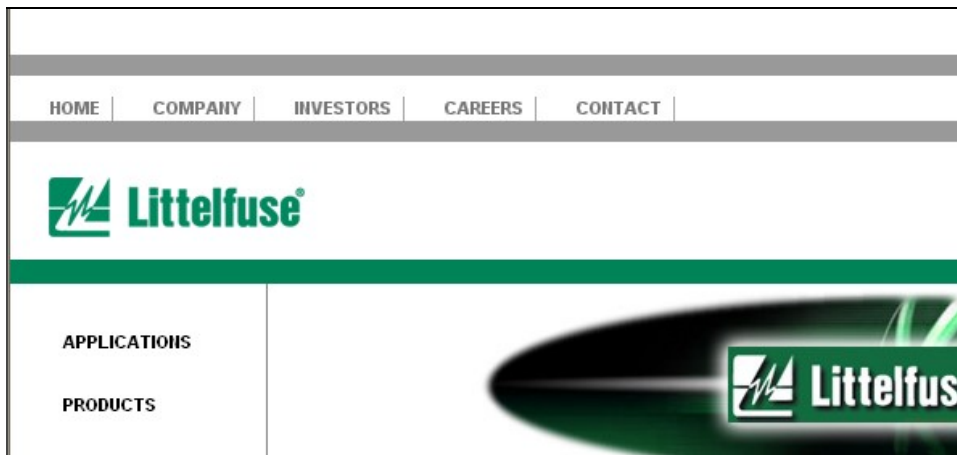

Figure 1 - System Login Screen Shot
- 6.3. Enter the caWeb system by logging into the system with assigned user name and password (Figure 1). The web page may be accessed through <http://www.littelfuse.com/> (click “Login” in the upper left corner of the screen) or directly to <http://caweb4.hginet.com/lfsupplybase/>. Your caWeb Administrator will provide you with your login and password information prior to first use.